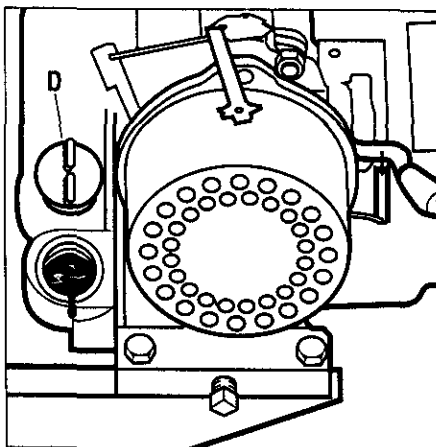

Figure 3-10: Add motor oil to the engine using the oil fill hole.
3. Unscrew the engine oil fill plug (D, Figure 3-10). Using a clean funnel, slowly add oil until the oil level reaches the overflow point in the oil fill tube. **ALWAYS MAINTAIN THE OIL LEVEL AT THE OVERFLOW POINT.**